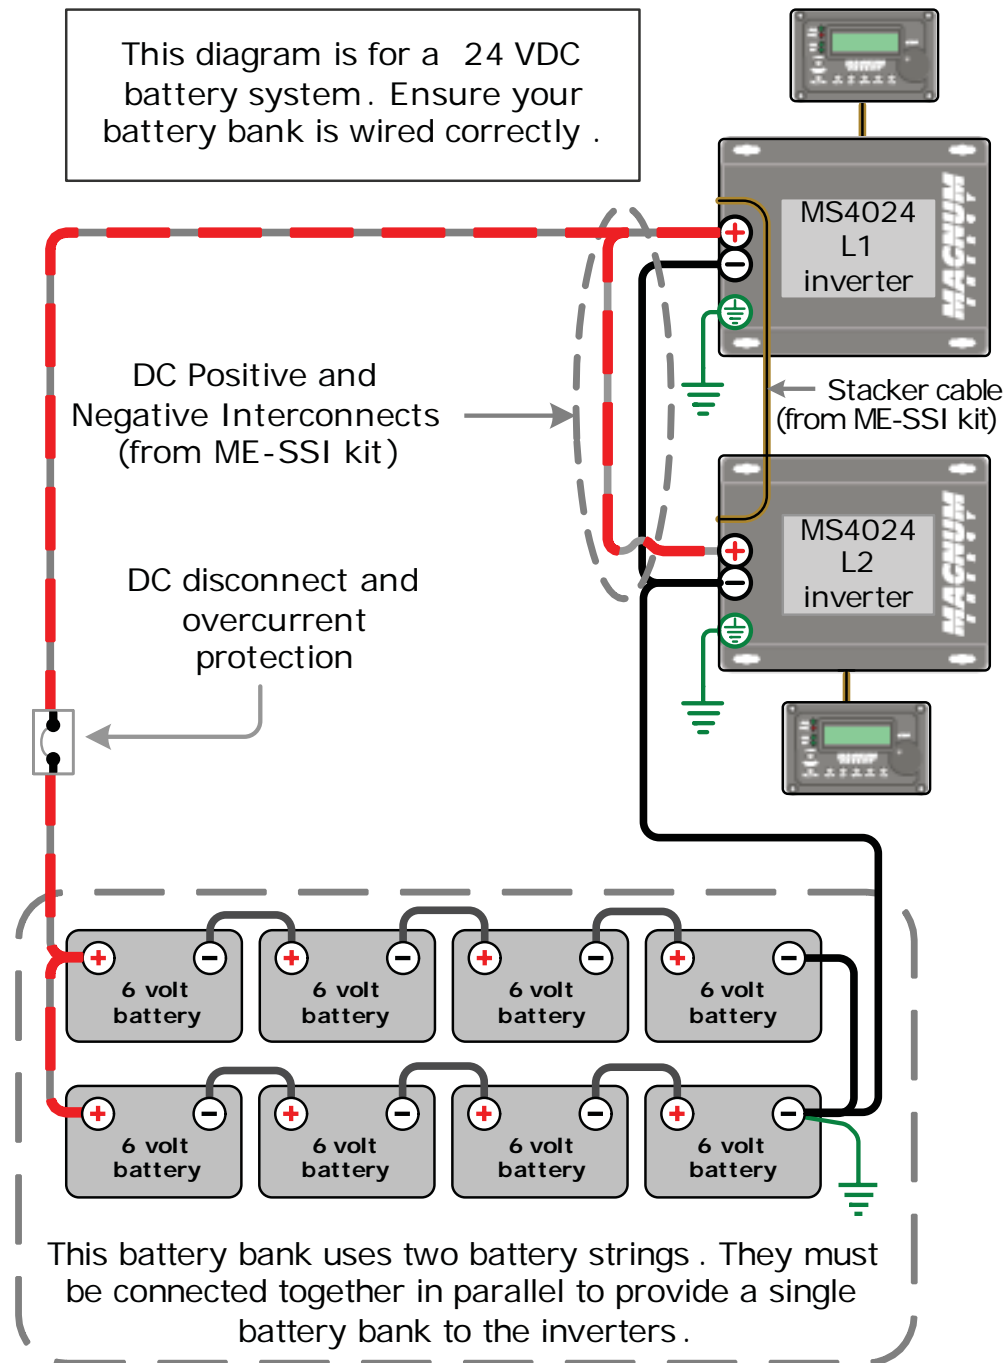
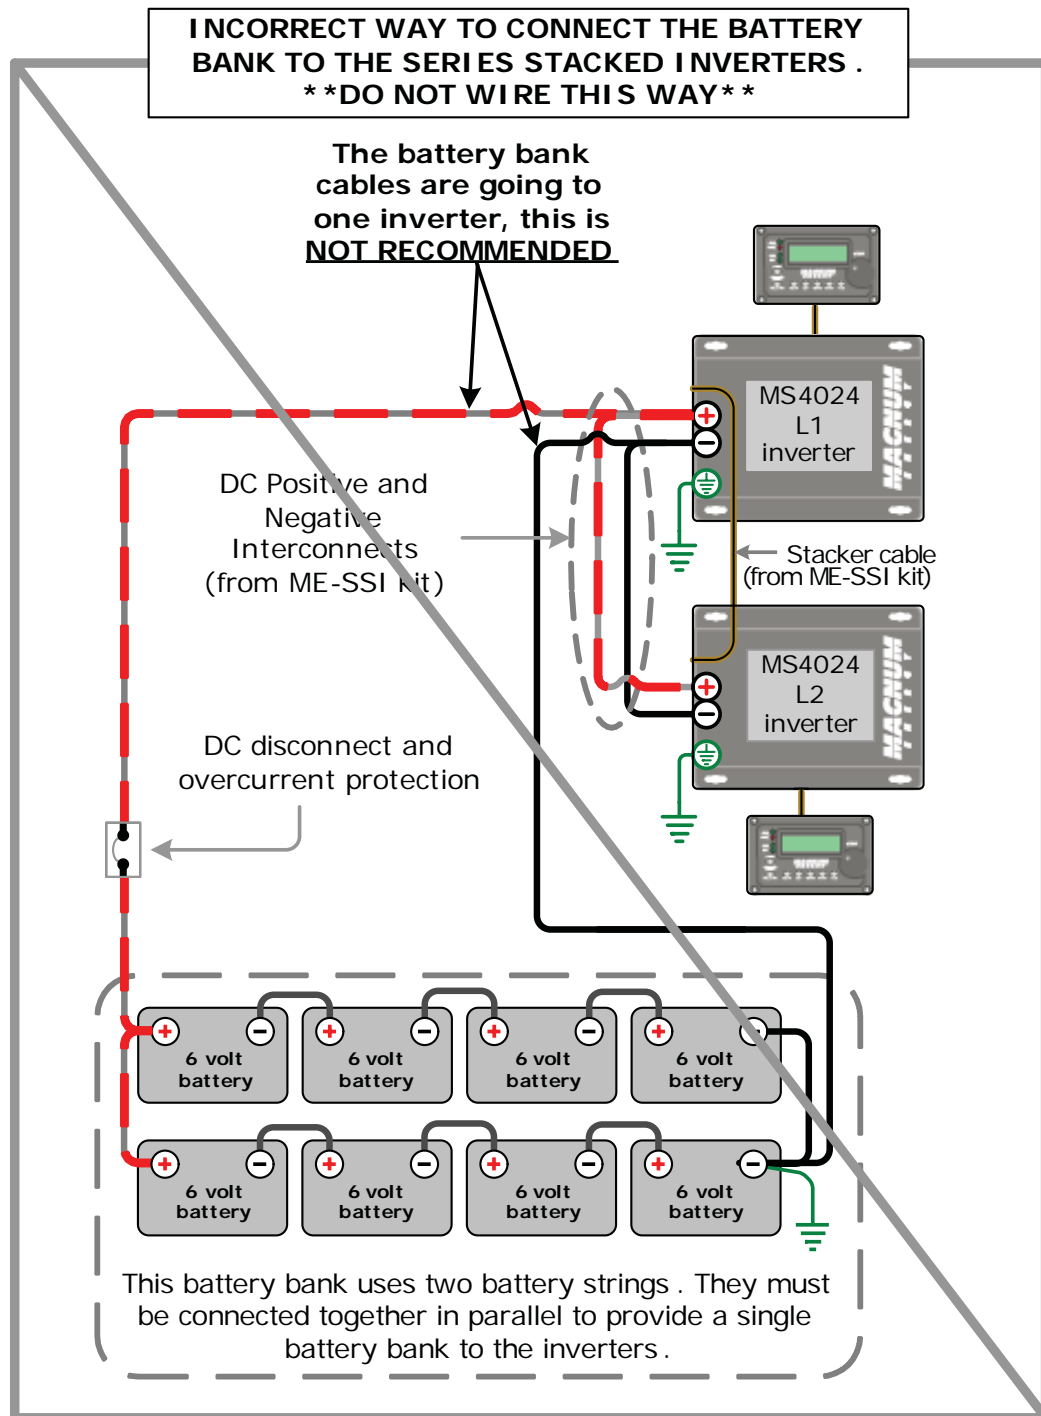

Figure 3, DC Wiring Using One Battery Cable Pair
Figure 5, Incorrect DC Wiring
For example: If you have eight 6 volt batteries and require a 24 volt battery bank, connect four of the 6 volt batteries together to make 24 volts. This is known as a series battery string. The other four 6 volt batteries connected together will also make another series battery string. The negative ends of these two battery strings must be connected together. Likewise, the positive ends of the two battery strings must be connected together. Then, the two battery strings are connected together in parallel to make a single battery bank to power the stacked inverters (as shown in Figures 3 and 5).
- Incorrect DC wiring** – As shown in Figure 5, do not attempt to connect the positive and negative to one inverter and then jumper the negative and positive to the second inverter. This will not distribute the current into and out of the battery bank evenly and may not allow the second inverter to receive sufficient current if powering a heavy load. If you have a single battery cable pair, use Figure 3 to guide you in wiring your DC battery cables to the stacked pair of inverters.